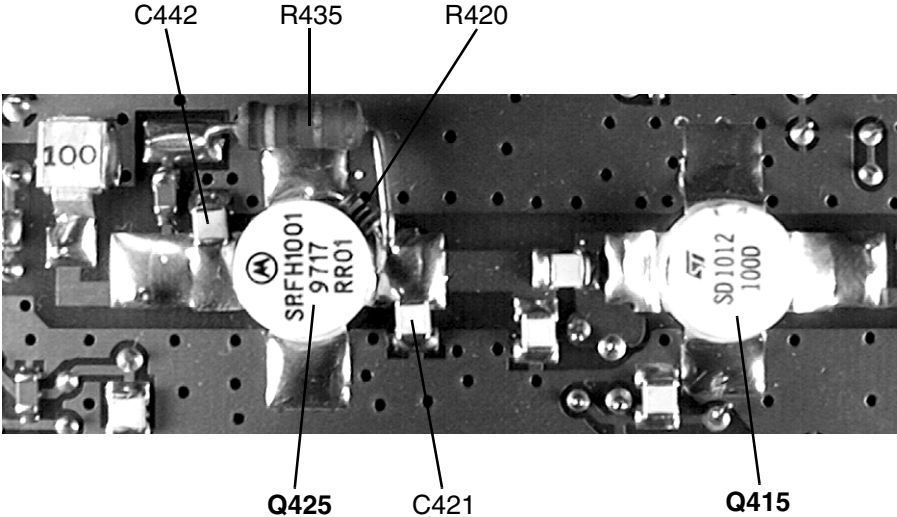

Figure 5.2 Positioning Of Components Around Q425 & Q415
**Caution:** Before attempting to remove a transistor, note the position, type and value of each capacitor and resistor so that it can be replaced in *exactly* the same position (refer to Figure 5.2).